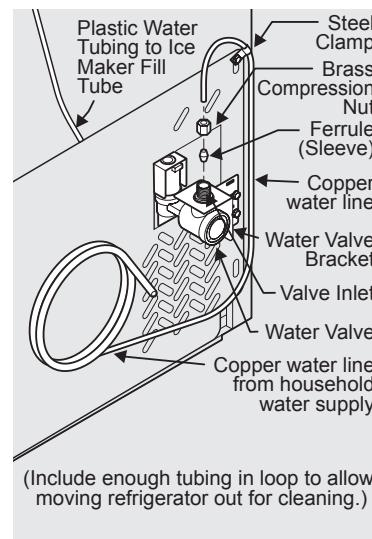

Figure 1
4. If you use copper tubing - Slide brass compression nut, then ferrule (sleeve) onto water supply line. Push water supply line into water valve inlet as far as it will go ($\frac{1}{4}$ inch/6.4 mm). Slide ferrule (sleeve) into valve inlet and finger tighten compression nut onto valve. Tighten another half turn with a wrench; DO NOT overtighten. See Figure 1.